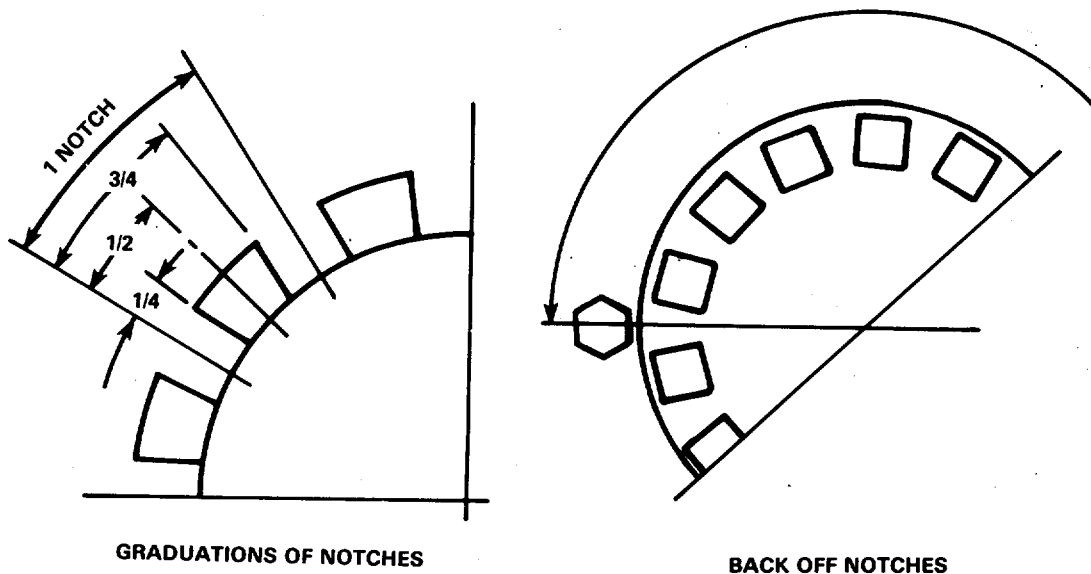

FIGURE 4-23. Adjusting Retainer Nut.
- (b) Back off the retainer nut 3-1/4-4-1/4 notches. See FIGURE 4-23.
- (2) Dial indicate the end play as follows: